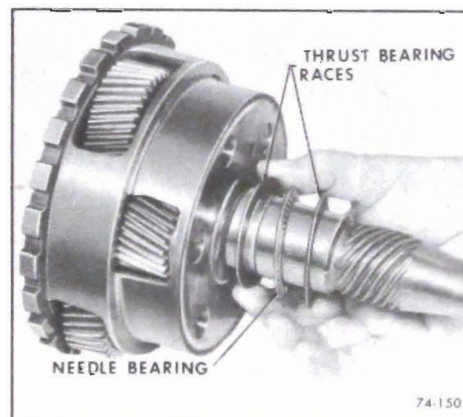

Figure 74-296
1. Install thrust bearing race with lip, needle bearing, and a second plain thrust bearing race to the rear face of the planetary gear set. Retain with grease. See Figure 74-296.